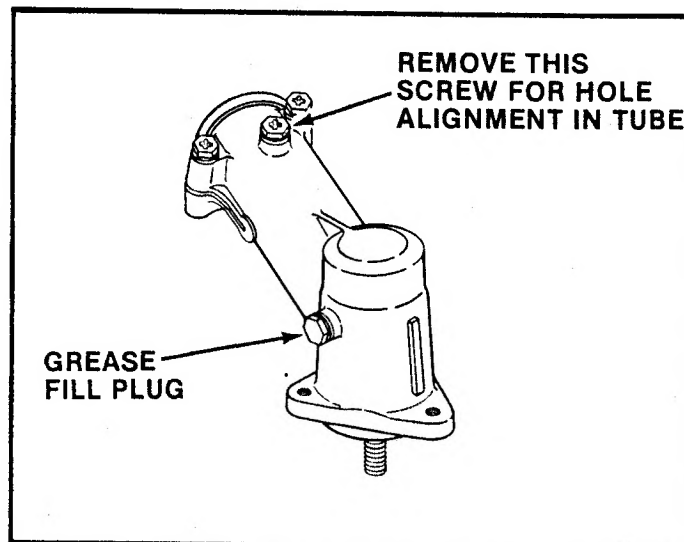

FIG. 5 - GEAR HOUSING
WARNING: It is normal for the gear housing (figure 5) to become very warm after extended periods of operation. While the temperature should not become high enough to cause burns, it could reach levels very uncomfortable to the touch.
4. Reverse ends of shaft and insert all the way into liner and tube. Turn shaft to align with square opening in clutch drum. If the end of the shaft protrudes more than 3/4" from the edge of the drive tube, the shaft is not fully engaged in drum. When properly installed, reinstall the drive head-shield & brace assembly on the drive tube housing and secure the fasteners on the head and brace to lock in position. (See note in Figure 5 below for aligning gear head on tubing.)